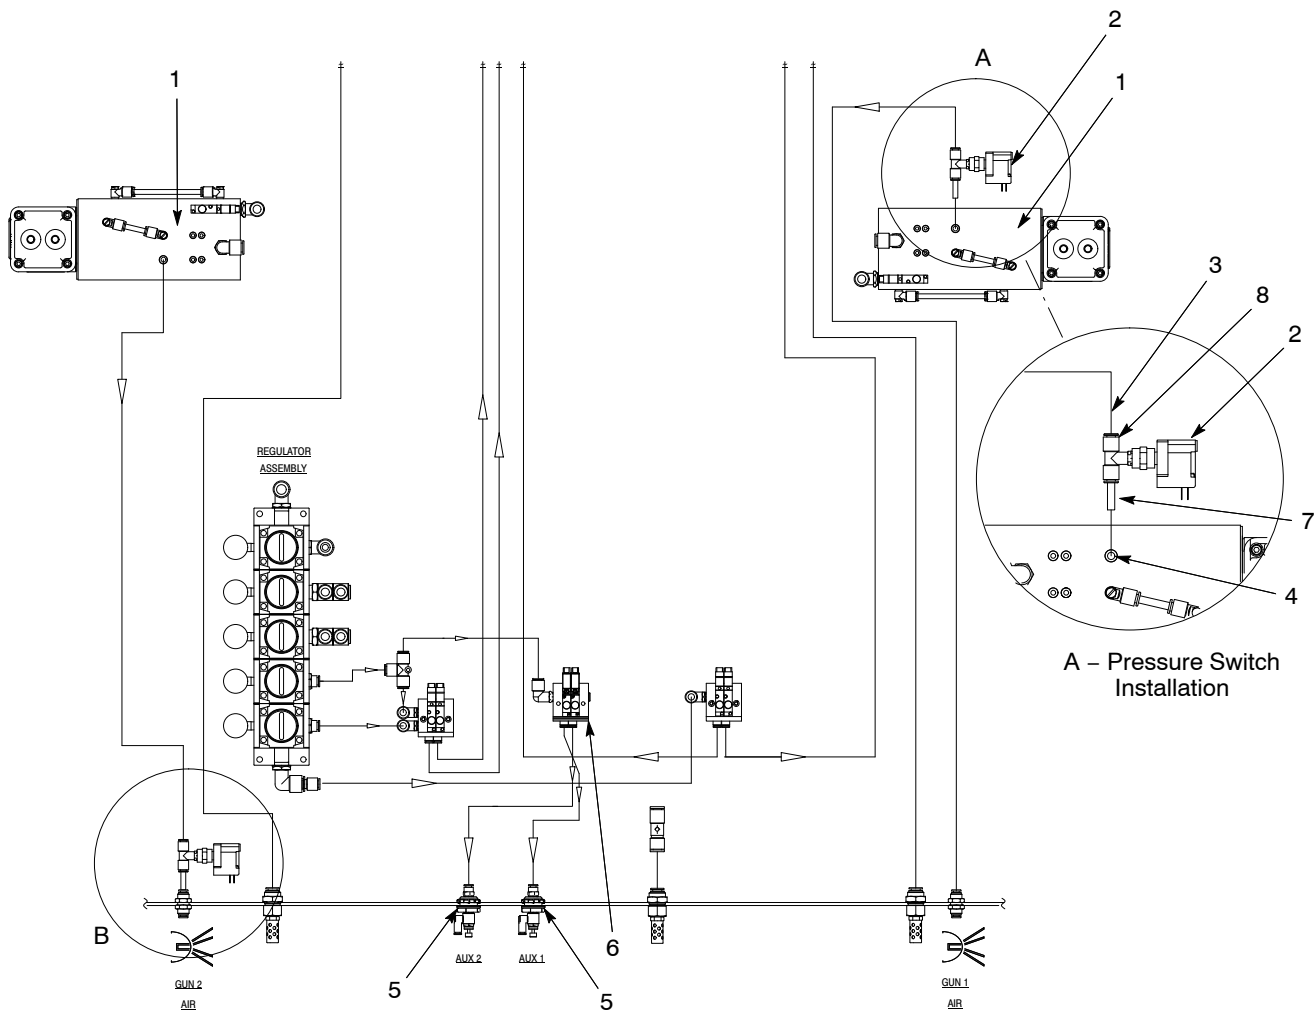

Figure 4 Pneumatic Schematic (Two-Gun System Shown)
See Figure 4 for pneumatic illustration.
1. Remove the existing tubing (4) from the regulator (1) positioned second from the bottom in the Prodigy pump cabinet.
2. Install the short piece of tubing from the manifold assembly tee (3) into the regulator (1).
3. Install the existing tubing from step 1 into the open port of the manifold assembly tee (3).
5. Peel the release tape from the bottom of the manifold assembly (2).
**NOTE:** See Figure 4 for pneumatic illustration.
1. Remove the plug from the auxiliary 1 port (5) in the bottom of the cabinet.
2. Install the bulkhead assembly (6) in the auxiliary 1 port location as shown. The connector (7) and the lock nut (8) will be positioned inside the cabinet. The conduit seal (9), adaptor (10) and flow control valve (11) will be positioned outside of the cabinet.
3. Plug the 6mm tubing from the manifold assembly (2) into the male connector (7) of the bulkhead assembly (6).
4. For a dual pump system, repeat steps 1 – 3 in auxiliary 2 port location (12).